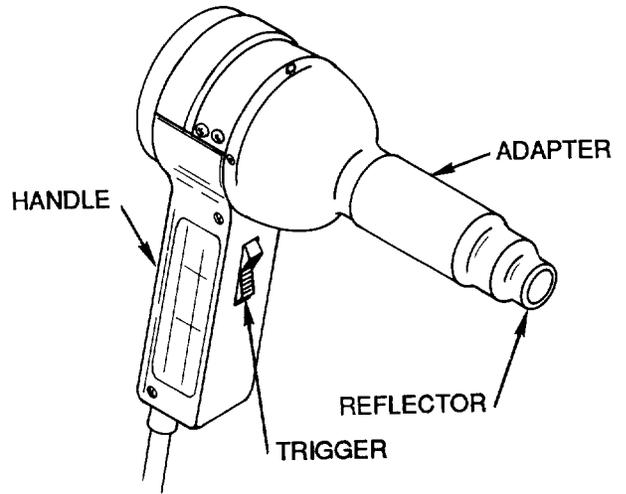

Figure 24. Mini-Gun Hot Air Tool, CV-5300/CV-5302
57. Mini-Gun hot air tool, CV-5300/CV-5302 (Figure 24), is a lightweight hand-held tool used for applying a variety of heat-shrinkable products and solder termina-
58. **PRE-OPERATION.** Prior to using mini-gun heating tool (Figure 24), proceed as follows:
60 . **OPERATION.** To operate heating tool (Figure 24), proceed as follows:
61 . **POST-OPERATION.** After using heating tool (Figure 24), proceed as follows: